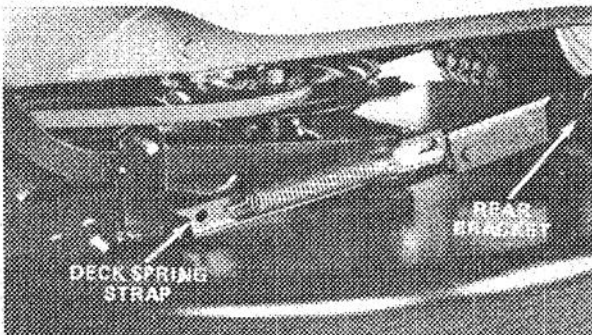

Figure 39
3. Remove hair pin cotters and flat washers from the deck spring straps and remove straps from the pins (Fig. 39).
5. Insure rear cutting unit brackets (Fig. 39) are resting on the pins and install the new belt.